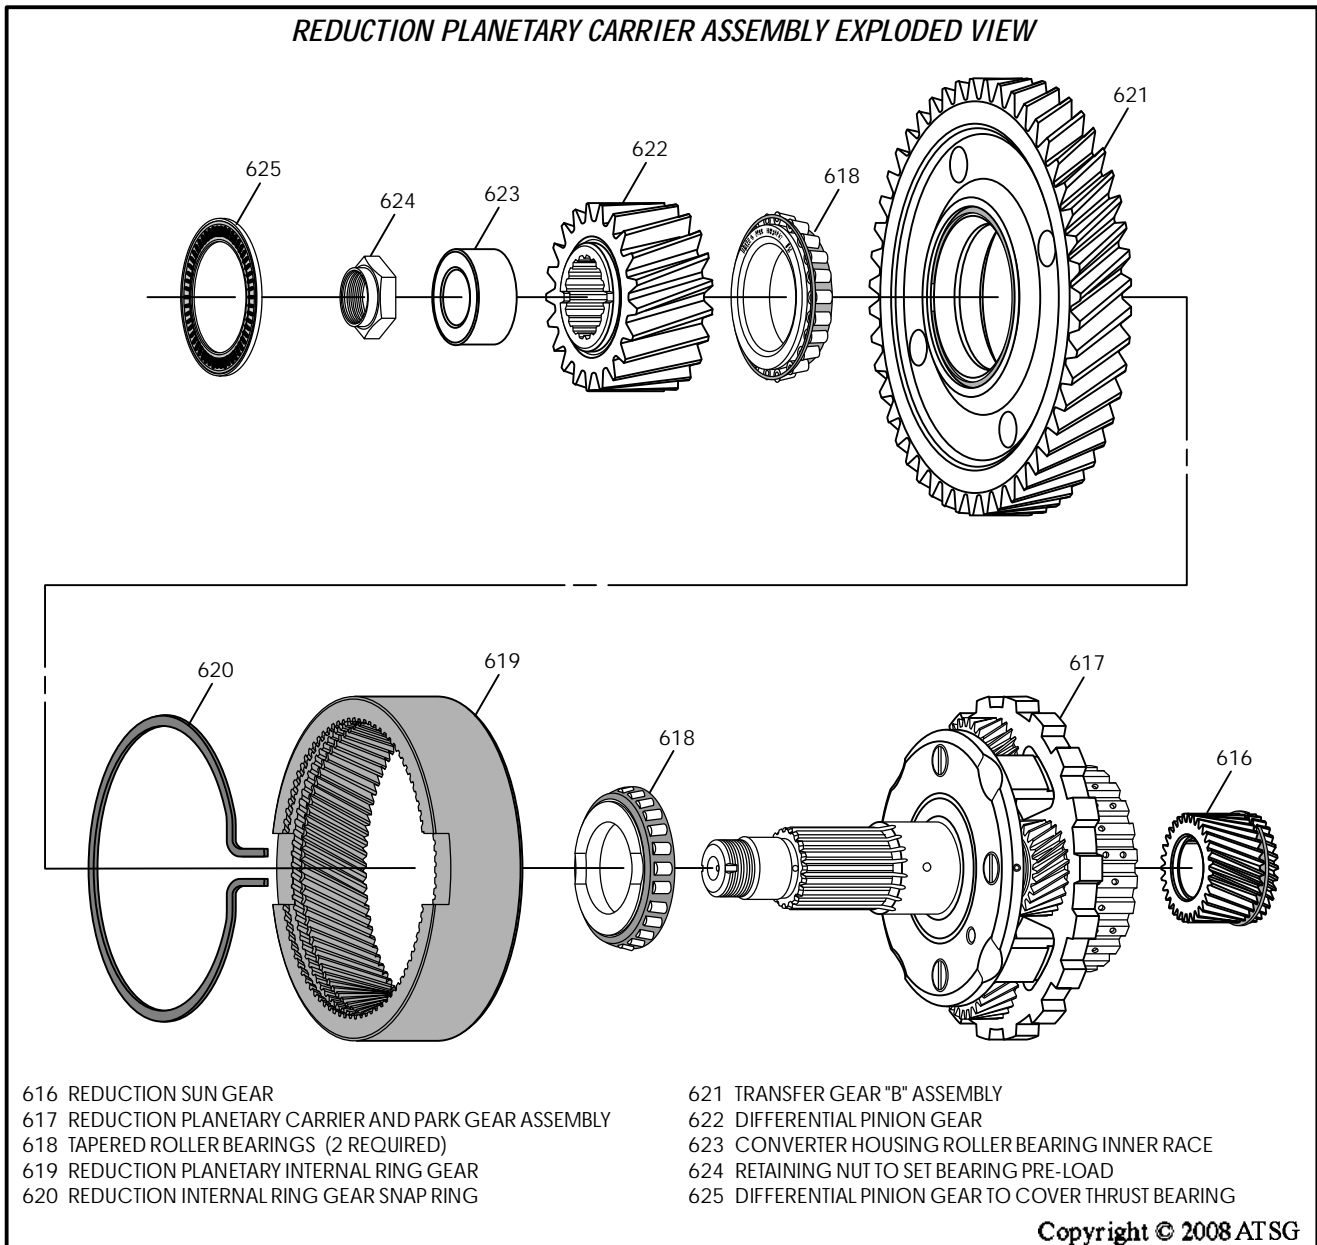

Figure 102
**Note: The differential pinion gear (622) and bearing inner race (623), are pressed onto the reduction carrier shaft.**
4. Disassemble the remaining parts of reduction carrier using Figure 102 as a guide.